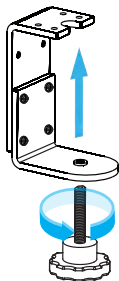

Figure 8
1. Screw-in the **Hand Knob** through the **Hole** on the **Desk Clamp**. (Figure 8)